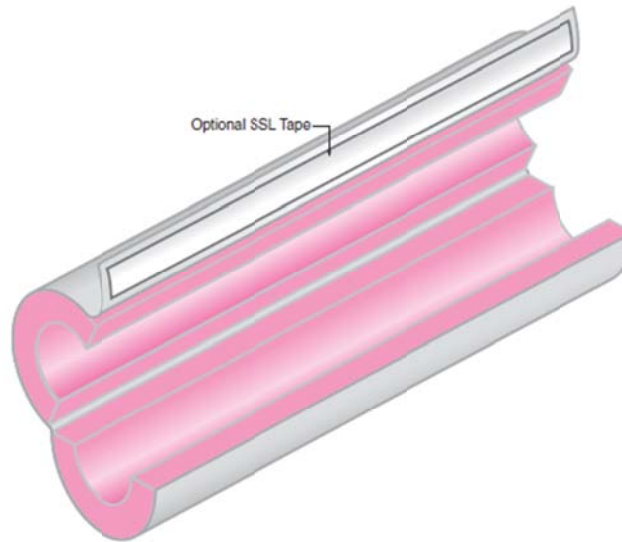

**Figure 4**
4. Each layer of insulation shall be secured to the pipe with 3/4" wide fiber reinforced tape. If factory applied facings are used, fiber reinforced tape is not required on the outer layer. (Figure 4, Appendix A)